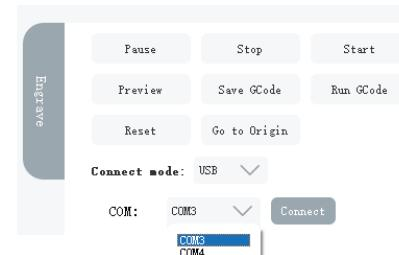

Fig.2
4. Automatic machine connection (if it does not connect automatically, you need to try another COM) -Fig.2